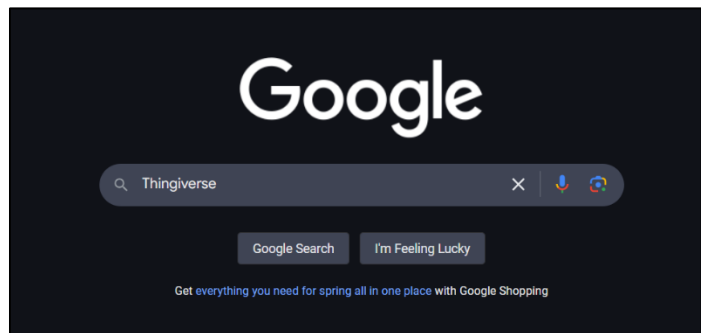

Figure 1: Using the search engine Google to search for Thingiverse.
- 1) Open a search engine. (Figure 1)